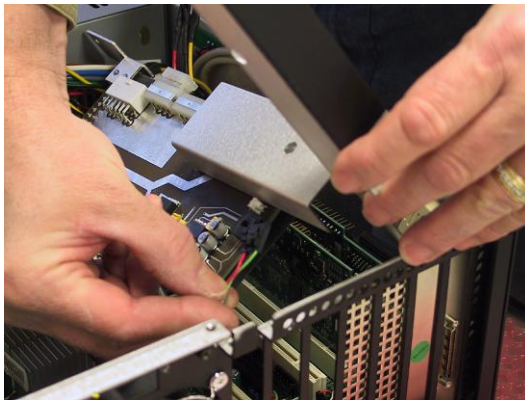

Figure 4-66
- 11) Disconnect the left speaker cable from the power distribution board as illustrated in Figure 4-66.